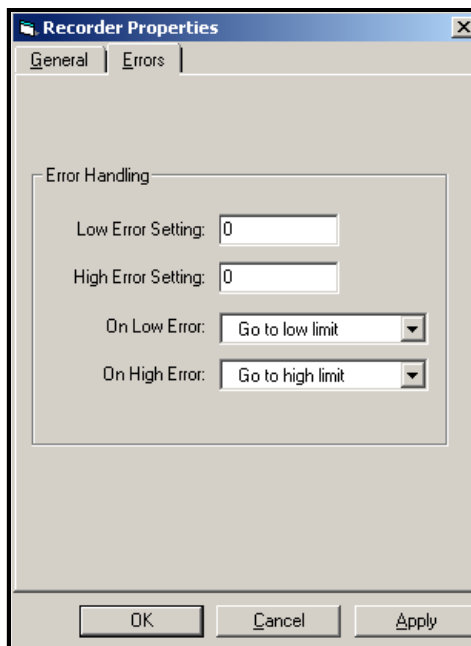

Figure 3-9: Recorder Errors
- Next, click on the Errors tab and select the Error Handling schemes for the On Low Error and On High Error cases from the drop-down menus. Then click on Apply (see Figure 3-9 below).